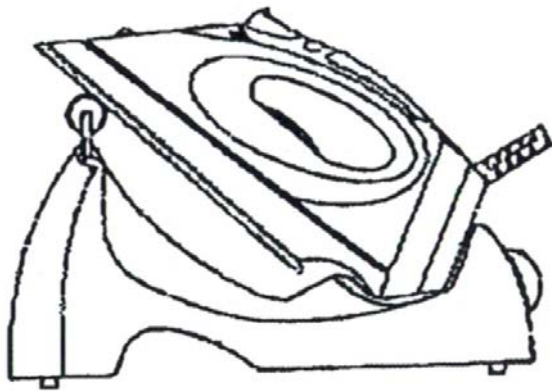

Fig. 3
- Place the iron on the stand. (Fig. 3)